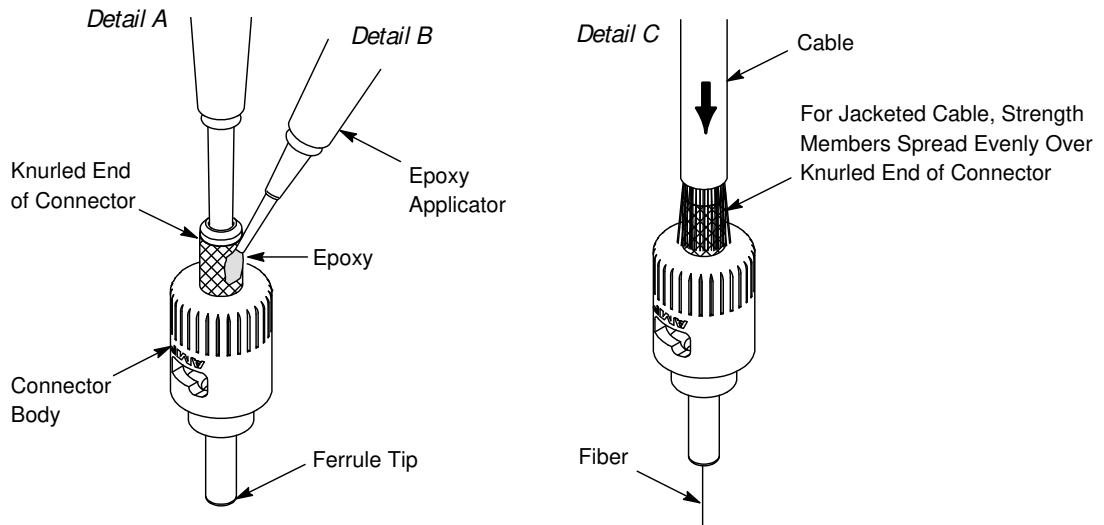

Figure 4
1. Remove the protective cap from the connector. Hold the connector with the knurled end up. Insert the tip of the epoxy applicator as far as possible into the connector body. See Figure 4, Detail A.
4. For jacketed cable, apply a drop of epoxy to the outside of the knurled end of the connector, and distribute it evenly around the circumference of the knurled end. See Figure 4, Detail B. DO NOT allow any epoxy on the coupling nut or spring area.
5. Using a twisting motion, gently insert the fiber into the connector until it bottoms. The fiber should appear at the tip of the ferrule. Refer to Figure 4, Detail C.
For jacketed cable, make sure that the strength members are spread out evenly over the knurled end of the connector. See Figure 4, Detail C.